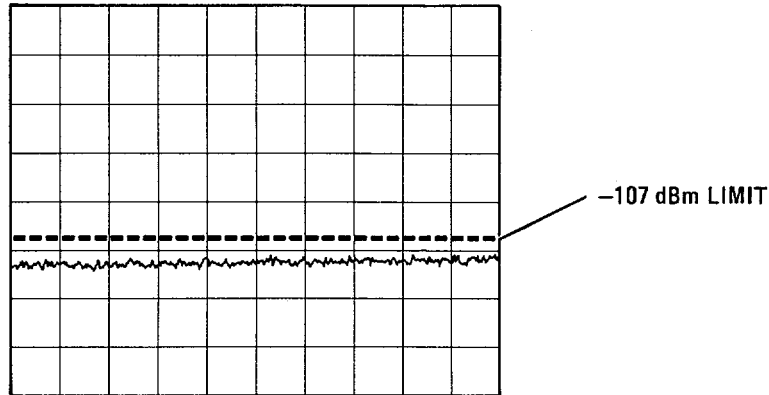

Figure 4-12. Average Noise Level Measurement
2. Adjust TUNING until LO feedthrough is not on screen. Set VIDEO FILTER to MAX (not in detent) and observe CRT display of noise level from 1 MHz to 1000 MHz. Noise level, as shown in Figure 4-12, should be less than - 107.
- 001: Change '- 107 dBm' to '- 100 dBm' throughout procedure and in Figure 4-12.
- 002: Change '- 107 dBm' to '- 53 dBmV' throughout procedure and in Figure 4-12.